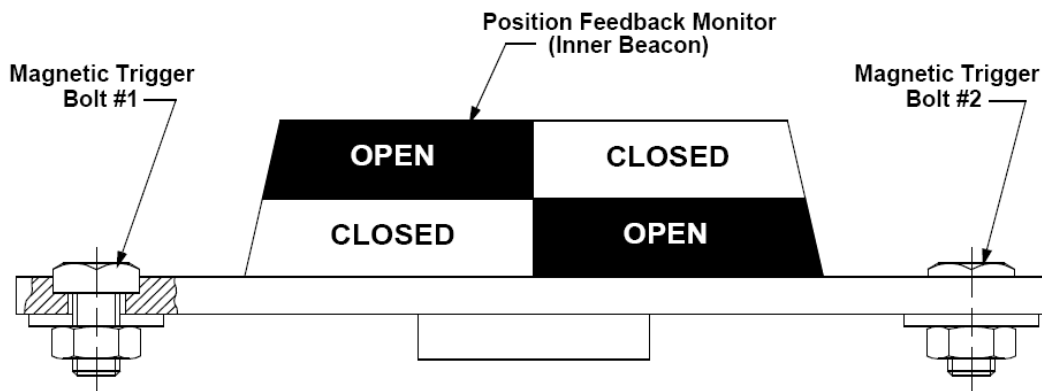

Figure 3-13
2. Loosen magnetic trigger bolt #1. (See Figure 3-13)